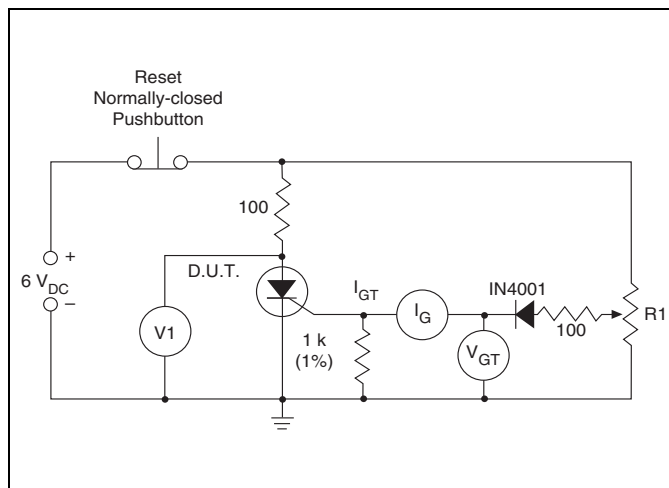

Figure E5.19 Simple Test Circuit for Gate Trigger Voltage and Current Measurement
- VD = 6 V dc, RL = 100 Ω (See Figure E5.19 for simple test circuit for measuring gate trigger voltage and gate trigger current.)